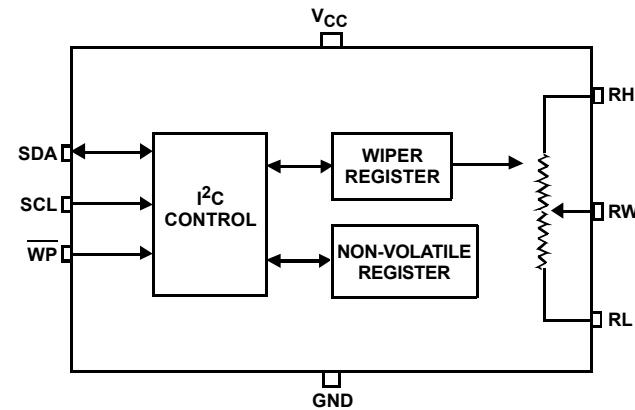

FIGURE 2. ISL95810 BLOCK DIAGRAM
The ISL95810 DCP is low noise, and has a low power  $\text{I}^2\text{C}$  bus with 256 taps and is implemented with a combination of resistor elements and CMOS switches. The position of the wiper is controlled by the user through the  $\text{I}^2\text{C}$  bus interface. The potentiometer has an associated volatile Wiper Register (WR) and a non-volatile Initial Value Register (IVR) that can be directly written to and read by the user. The content of the WR controls the position of the wiper. At power-up, the device recalls the contents of the DCP's IVR to the WR. A block diagram of the ISL95810 is shown in Figure 21.